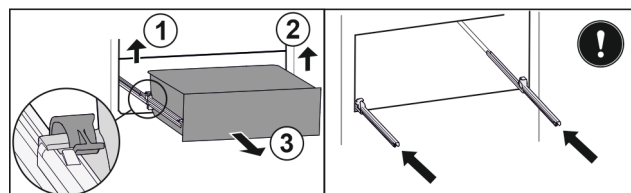

Fig. 39
- ▶ Lift left clamp and simultaneously pull drawer forwards on the left. Fig. 39 (1)
- ▶ Lift right clamp and simultaneously pull drawer forwards on the right. Fig. 39 (2)
- ▶ Remove drawer to the front. Fig. 39 (3)